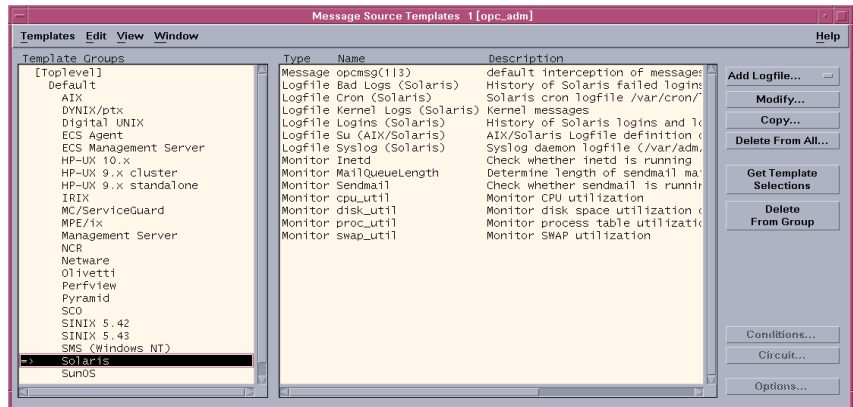

Figure 5-5. Message Source Templates window: Left pane navigation
- The left pane contains the message source groups available for you to select (Figure 5-5).